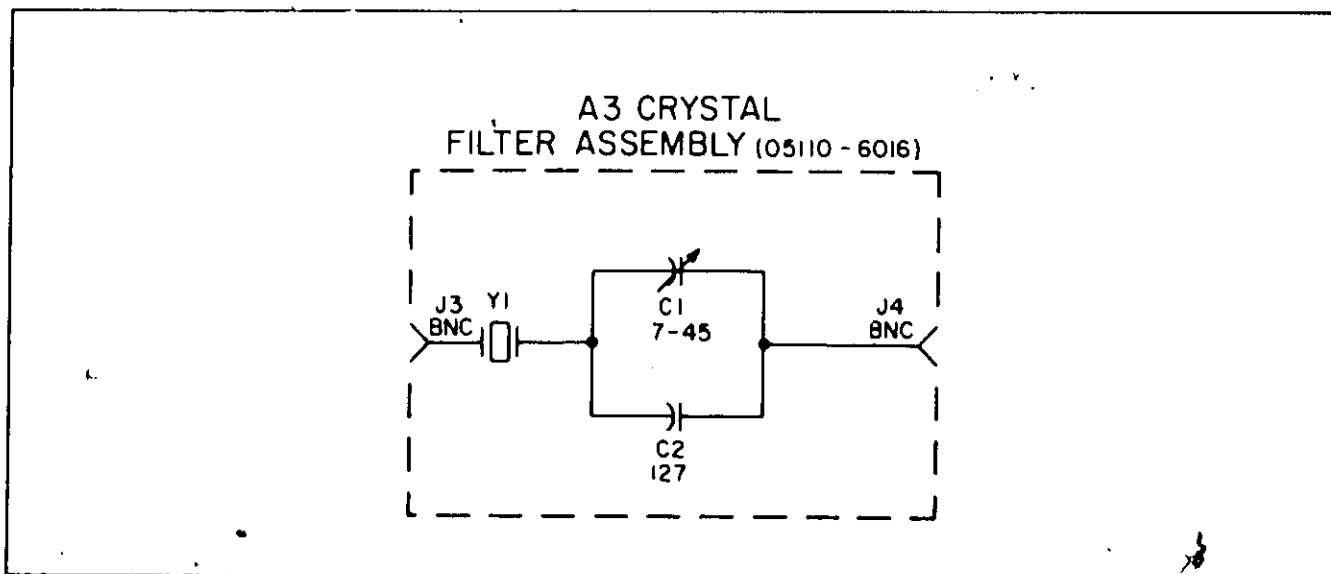

Figure 8-3. Crystal Filter A3 Changes
**CHANGE 2:** Filter/Divider Modules A5 through A14 and Filter Module A15 were as shown (524-) in Figures 8-3 through 8-8. Note that terminating resistors were installed at the outputs for driving more than one Synthesizer and only BNC jacks needed to be added and connected to obtain multiple output signals.
- CHANGE 7:** (406-) Crystal Filter Assembly A3 was as shown in Figure 8-3.